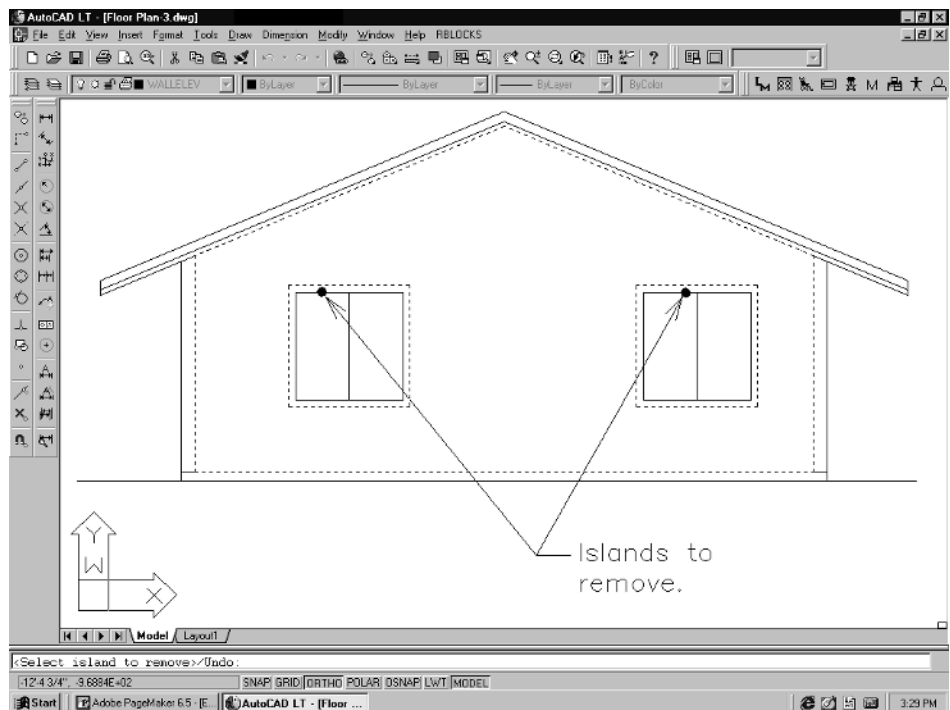

Figure 4-59
9. You will be prompted to *Select island to remove*. Pick the inner window lines, as shown in Figure 4-59. Then hit **Enter** and pick the **Preview** button again. If all looks well, pick the **OK** button to apply the hatch.